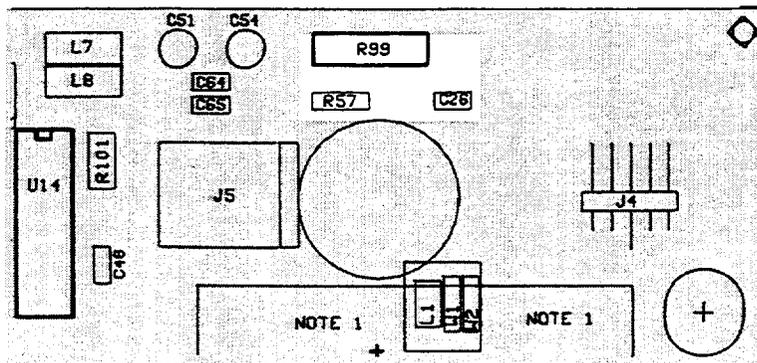

Figure 8-9. R57-C26 Junction Location
18. Verify that the dc voltage from the AUTO-ZERO DAC at the junction of R57 and C26 (see Figure 8-9) is between  $\pm 15$  mV.